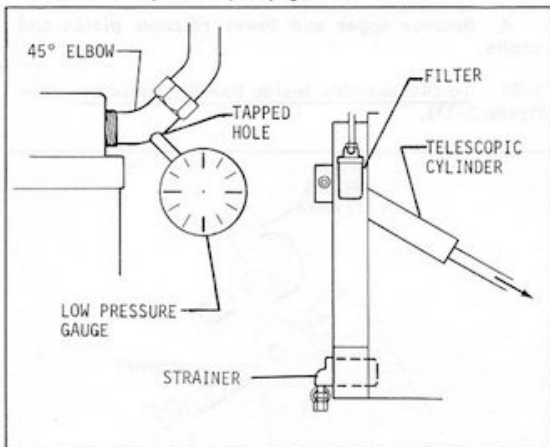

Figure 3-26. Hydraulic System Filters
c. There is a filter element located on the upper left side of the hydraulic tanks. This is a 10 micron filter element which filters the hydraulic fluid being returned to the tank. In addition, there is a 140 micron element strainer located inside the tank behind the gate valve, which filters fluid from the tank to the pump. See figure 3-26.
(1) Extend telescopic cylinder to lower hydraulic oil level in the tanks.
(2) Remove and replace filter element on the upper left hand side of the tank.
(3) At the same time, remove the 45° elbow located at the filter inlet, drill and tap for a pressure gauge port, reinstall and insert a low pressure gauge. (See figure 3-26).
(4) The PTO may then be engaged allowing hydraulic system to circulate through the new filter element, cleaning the fluid.